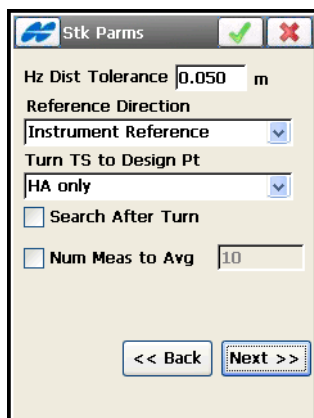

Figure 9-4. Stakeout Parameters – TS mode
4. To display the icon for the staked point on the map, select the *Display* option from the bitmap menu in the upper-left corner of the *Stk Params* screen (Figure 9-4). In the *Staked Point Icon* screen, set appropriate parameters for the icon.